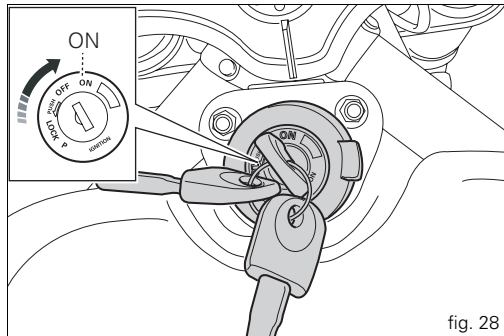

fig. 28
- 1) Turn the ignition switch to ON (fig. 28). Check that both the green light N and the red light  on the instrument panel come on.